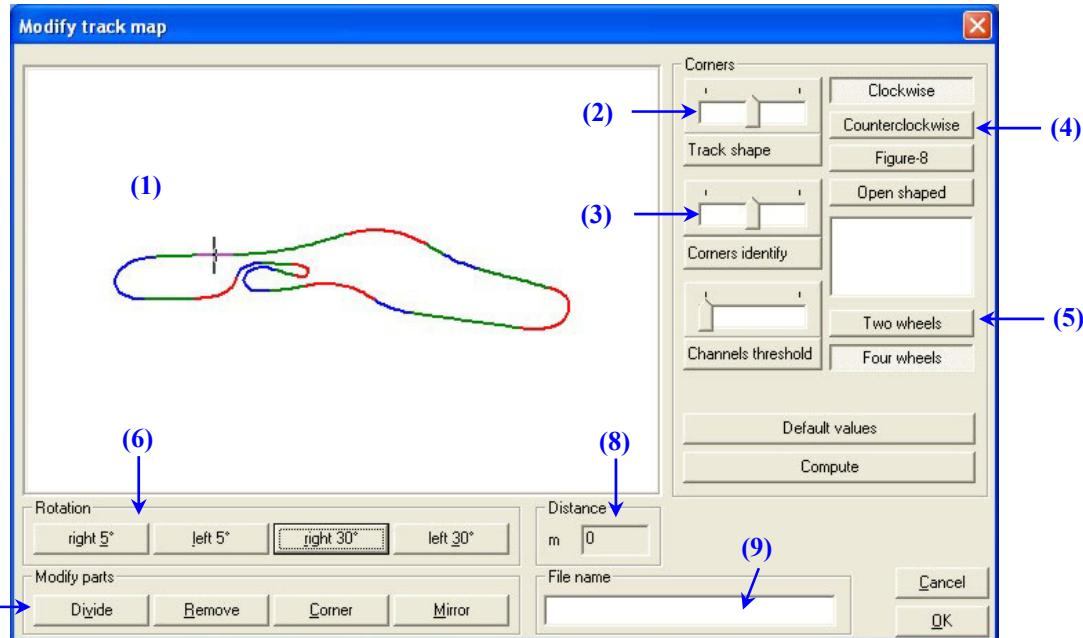

Fig. 5.2– *New track map* window: Vallelunga (Rome) track map
The layout of the view for the *New Track map* window is shown in Figure 5.2 and described below.
Here below it is reported a short description of all the pushbuttons shown in Figure 5.2:
- Verify that you have set the correct vehicle type (i.e. 2 or 4 wheels) in the New track map window (see Figure 5.2).